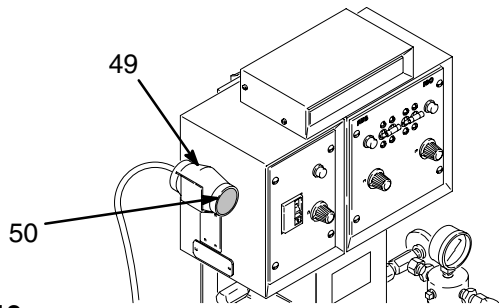

Fig. 12 01294
1. Remove the **ATC Sensor (49)** from the clamp (50).
2. Locate the sensor *outside* in air that is typical of the surface to be sprayed. The sensor has a 15 ft. (4.6 m) cable. See Fig. 12.